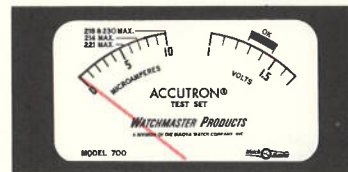

Fig. 19
2. If reading is zero (0) (fig. 19) the circuit is open and must be replaced. Note: The coil assembly can be removed and replaced without disturbing the train, fork or indexing mechanism. Page 11.